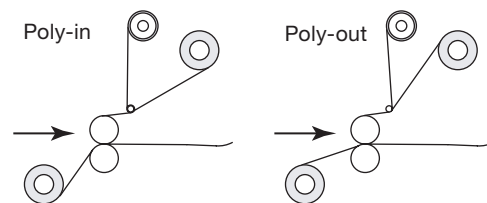

Fig. 6-15. Configurations for Poly-in and Poly-out Films.
This two pass operation requires pressure sensitive laminating film on the top supply shaft and pressure sensitive mounting film on the bottom supply shaft. Refer to Fig. 6-15 for the proper configuration of Poly-in or Poly-out film.
- Refer to *Fig. 6-15.* for the proper film configuration.